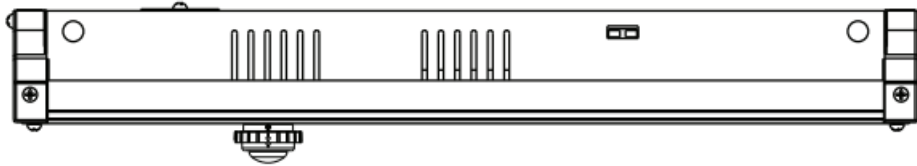

FIG. 4
4. Rotate the outer ring until the arrows align (see FIG. 4).